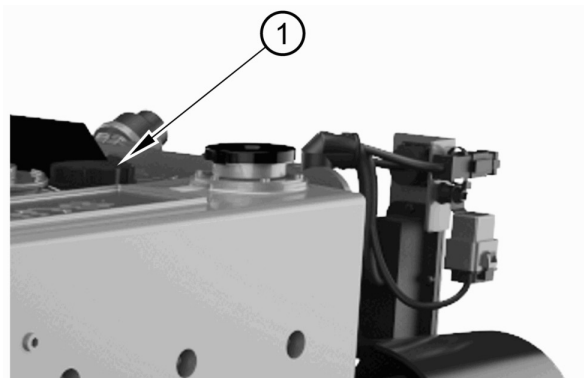
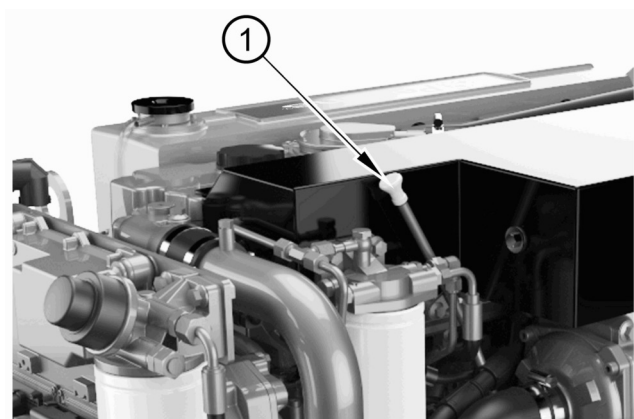

Figure 19
Figure 20
2. Clean the area around the filler cap on top of the rocker cover. Remove the cap (figure 19 item 1) and slowly add approximately 15 litres of new and clean lubricating oil of an approved specification to the engine. Allow the oil enough time to pass to the sump. Remove the dipstick (figure 20 item 1) and ensure that the lubricating oil is to the full mark. Do not exceed the full mark on the dipstick. Fit the filler cap and ensure that the dipstick is fitted correctly in the dipstick tube.